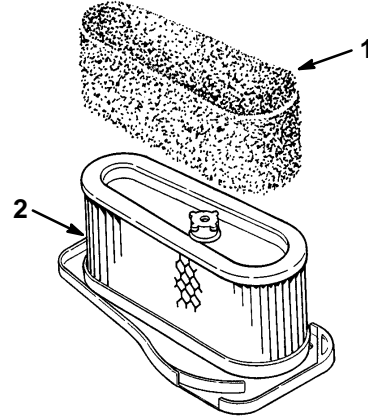

Figure 26
1. Carefully slide the foam element onto the paper air cleaner element (Fig. 26).